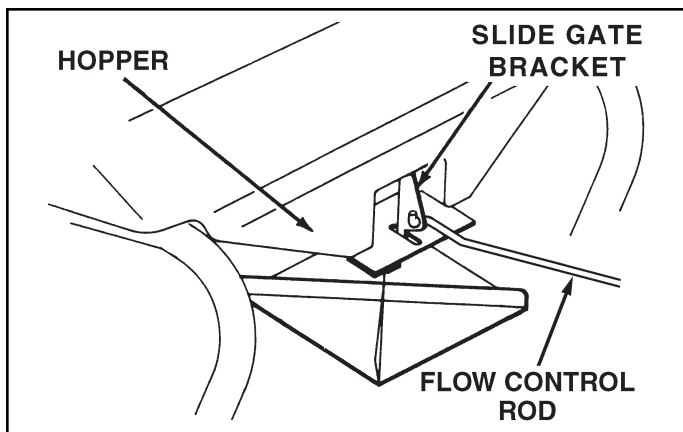

FIGURE 5
10. Hook the double bent end of the flow control rod through the hole in the slide gate bracket located near the bottom of the hopper. See figure 5.